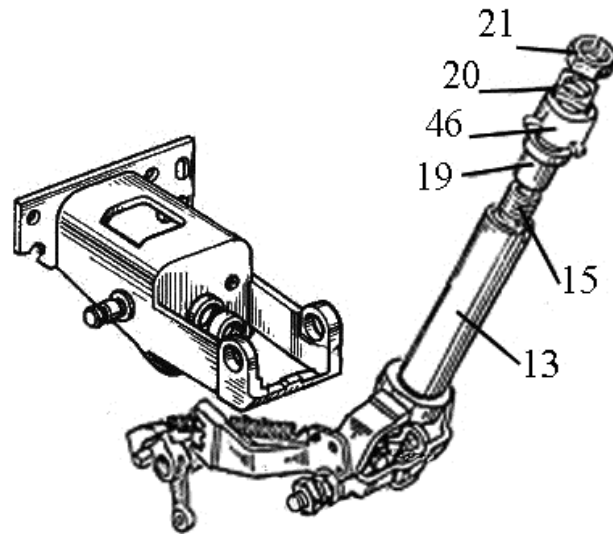

Figure 7.19
- 17) insert upper bushing (19), (figure 7.19) inside pipe (13), having first lubricated inside surface with grease LITOL-24;
- 18) put on pipe (13) baffle (46);
- 19) screw nut (20) and check nut (21) on threaded shank of shaft (15);
- 20) press cardan connection to pipe (13), having selected plays between bushings, shock absorbers and end faces of pipe;
- 21) screw nut (20) until it touches baffle (46) and unscrew it by (0.5–1) turn;
- 22) tighten check nut (21);